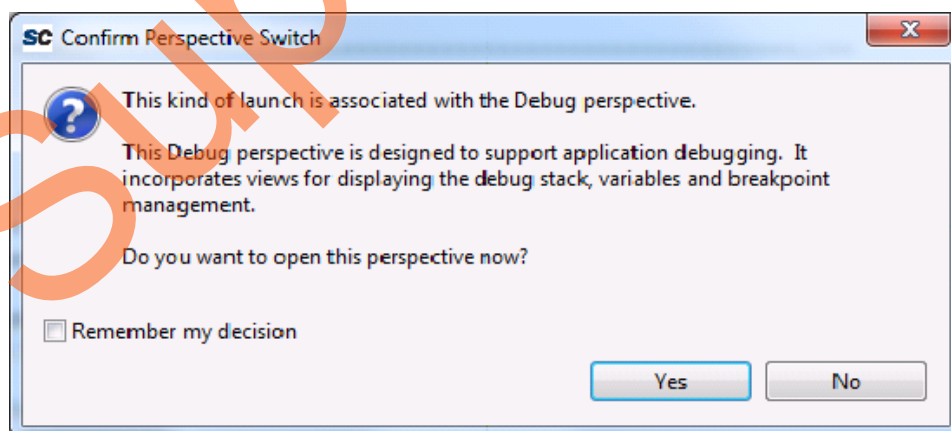

Figure 29 • Confirm Perspective Switch
4. On the **Confirm Perspective Switch** window, click **Yes**, as shown in Figure 29.